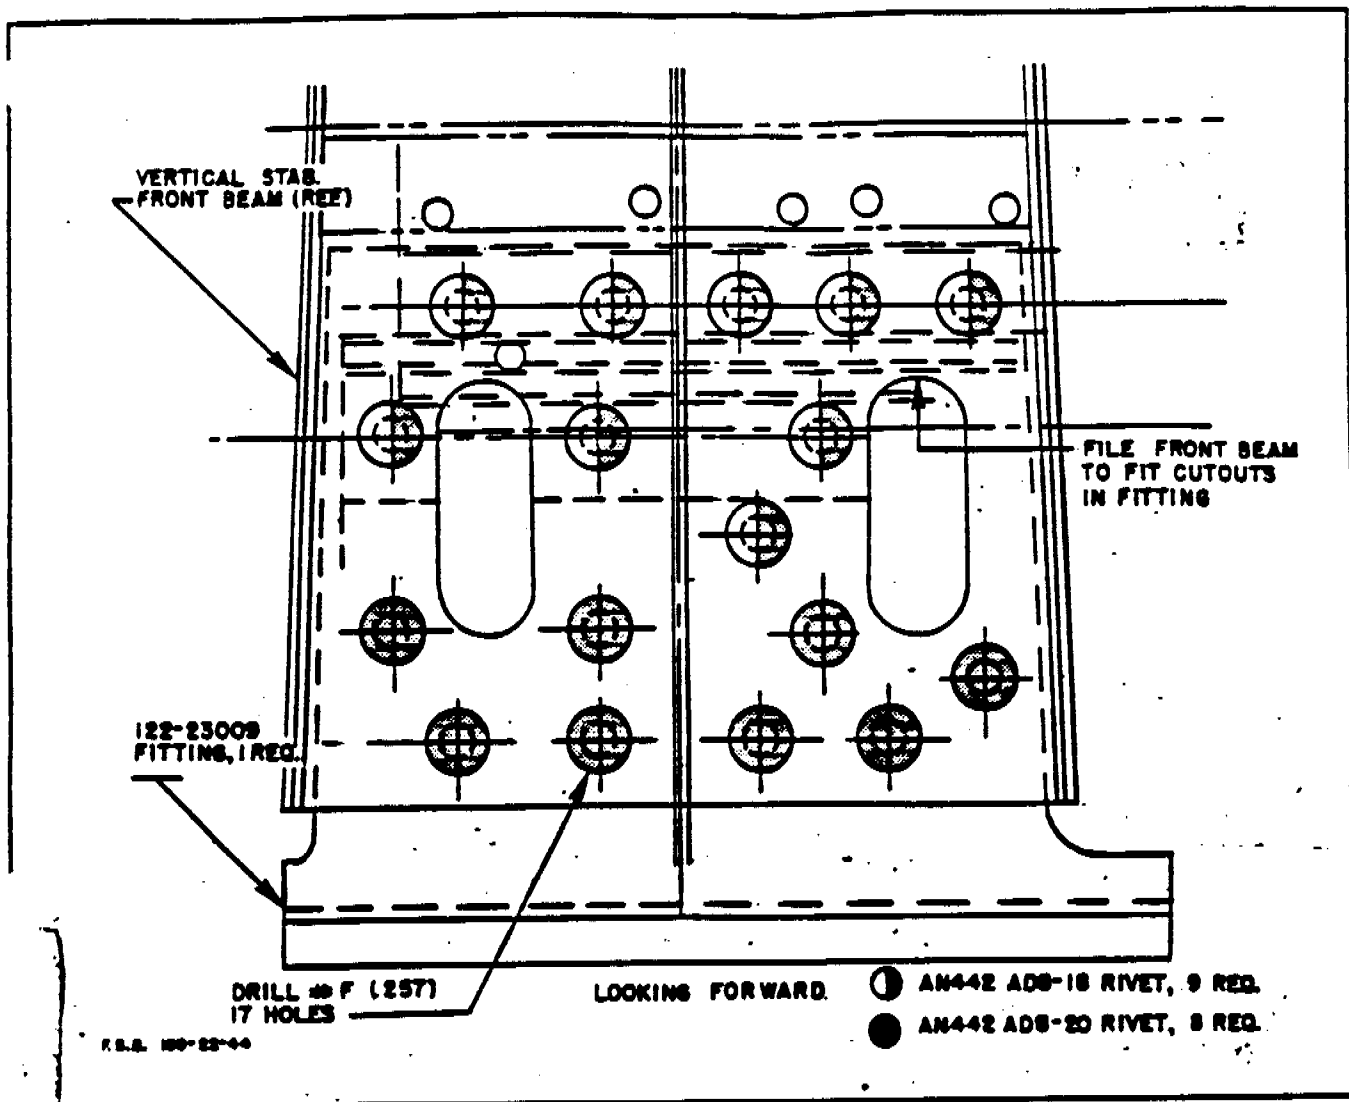

Figure 5 - Looking Forward - Fitting, Vertical Stabilizer
(2) Remove the rivets securing the fitting, part No. 73-23009, to the lower end of the vertical stabilizer front beam. Use a 1/4-inch (.250-inch diameter) drill and drill only the heads of the rivets off. Carefully punch the remainder of each rivet out. DO NOT ENLARGE HOLES.
(3) Secure the new fitting, part No. 122-23009, in place of the one removed in the following manner: (See figure 5.)